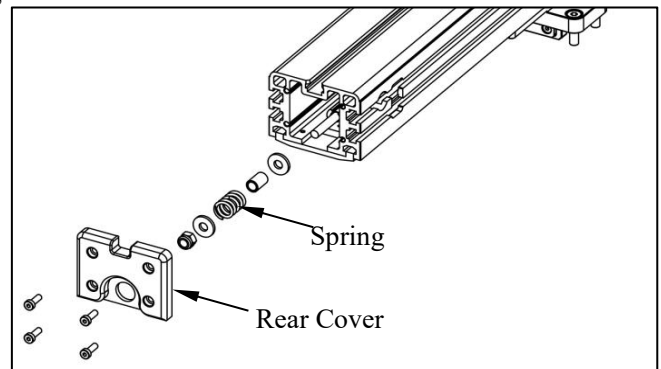

Fig. 33
3. As shown in Fig. 33, remove the rear cover and the spring.